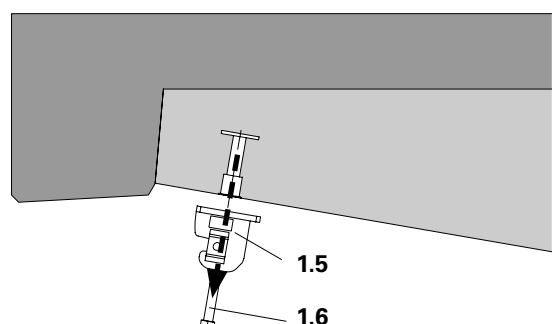

Fig. C3.05
4. Close anchor holes, e.g. with Plugs, see Section A5. (Fig. C3.05)